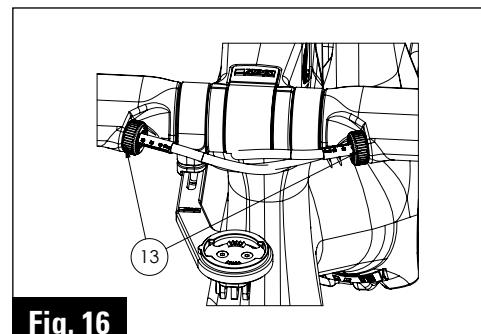

Fig. 16
3 / Place the liner in the brake tensioner ⑬ (Fig.16) (see ADH 2 handlebar instructions).